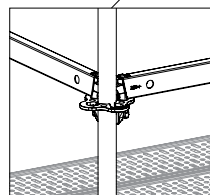

Fig. A1.03a
4. Attach Ledgers UH (3) and securely fix with wedges. (Fig. A1.03a)
5. Securely fix wedges for Ledger to Ledger UHA (15).